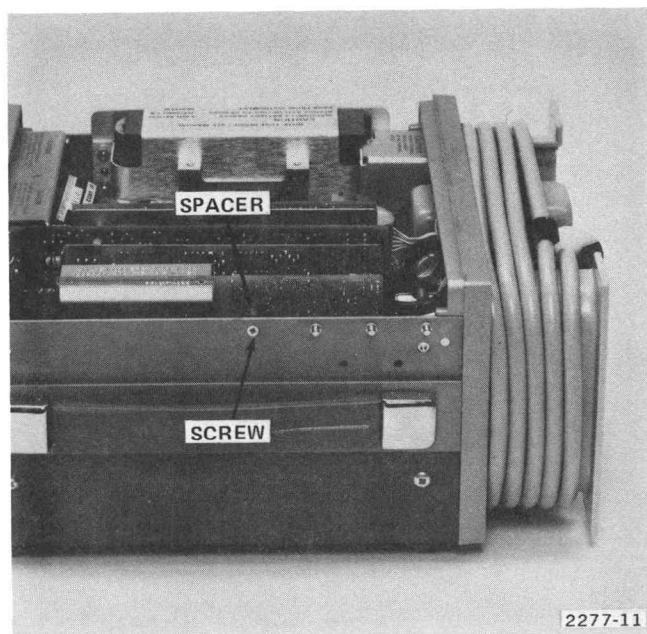

Figure 5-9. ECG board securing.
- e. CHECK—Screw and spacer securing ECG circuit board are tight. See Figure 5-9.